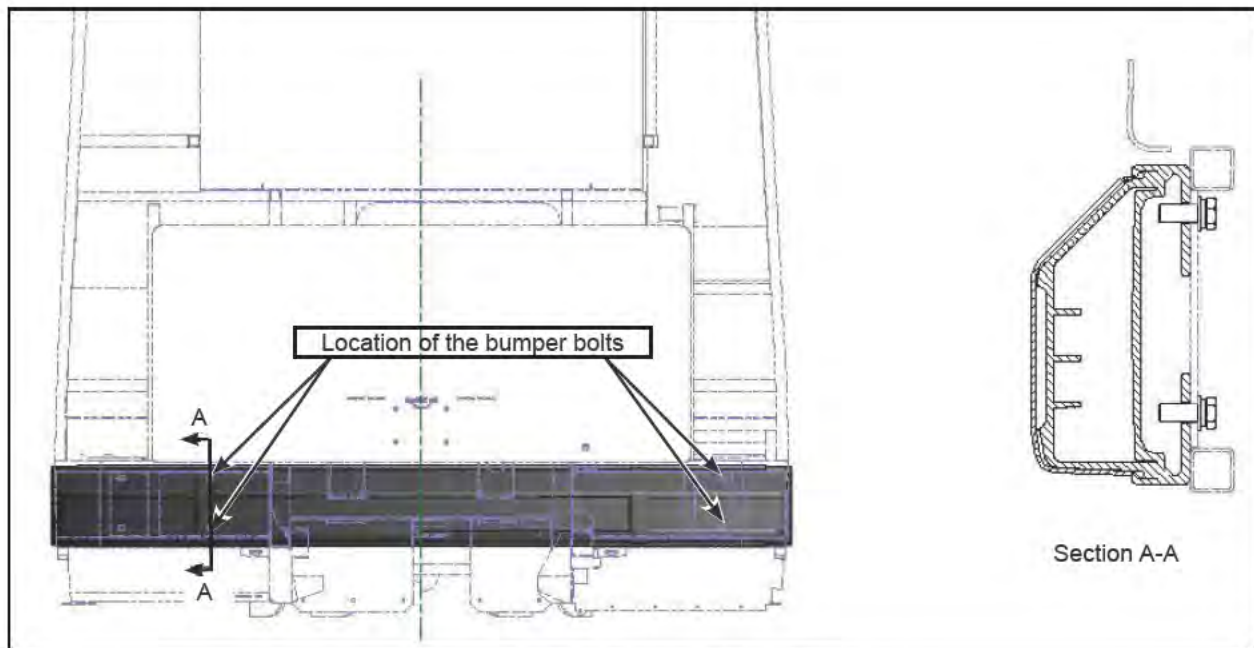

Figure 3 - Rear Bumper Bolt Locations
- 1.2. Remove the 4 bolts holding the rear bumper. See Figure 3.